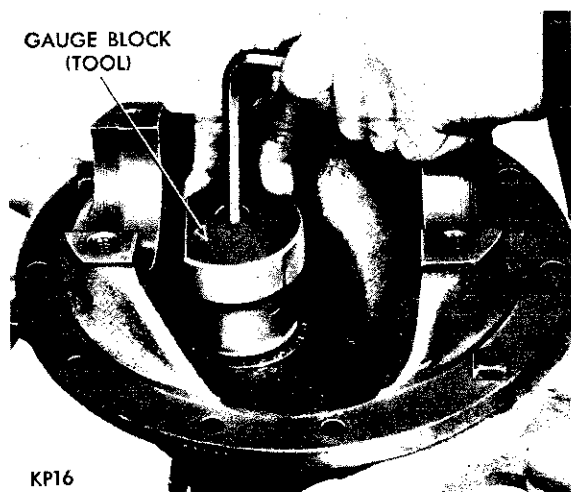

Fig. 27—Installing Gauge Block on Tool
(1) Invert the carrier in the stand and install gauge block SP-528 or SP-3250 on the end of the tool (Fig. 27), attaching it to the tool with the Allen screw. The flat portion of the spacer should be facing the differential bearing pedestals and the offset of the spacer (or the large portion) toward the center of the carrier. Tighten the screw with an Allen wrench.